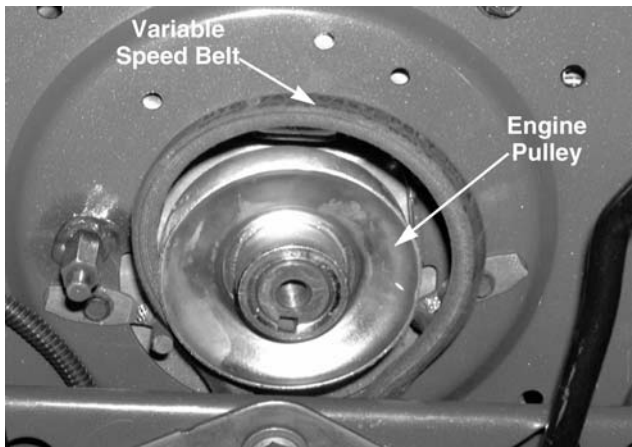

Figure 9-25
10. Slowly lower the engine drive pulley and remove the variable-speed belt. See Figure 9-25.